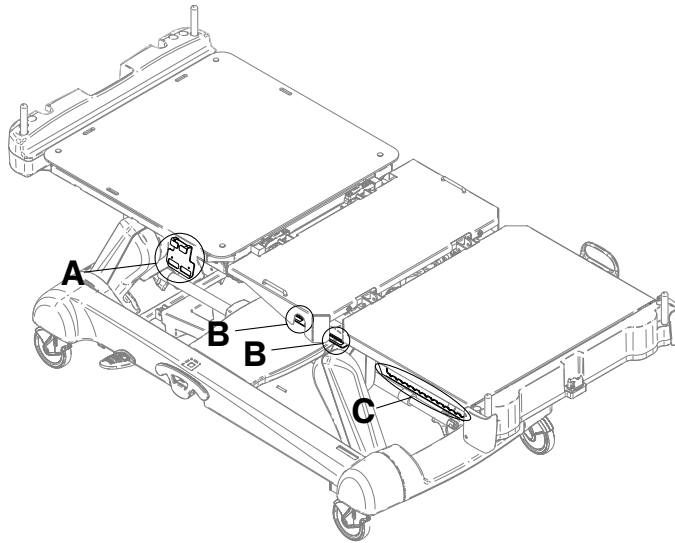

**Figure 10: CPR release pedal**
Two instant CPR release pedals are located at the head end section on both the left and right sides of the litter (A) (Figure 10 on page 28).